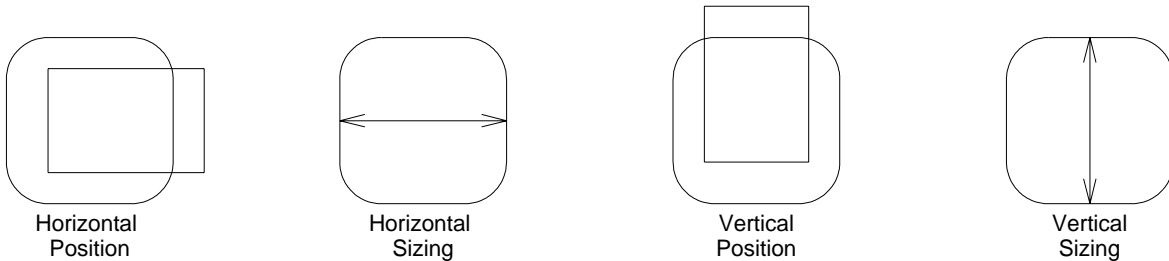

Figure 2, Monitor Adjustment Symbols
49. Using the **Select “+”** or **“-”** buttons on the front of the monitor, highlight **Horizontal Position** symbol, as shown in figure 2 below.